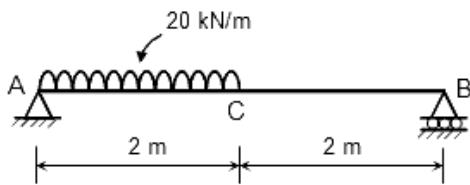

Figure.3
- b) A simply supported beam AB of span 4 m carries an uniformly distributed load as shown in fig. 3. Draw S.F. and B.M. diagrams for the beam. Find magnitude of maximum B.M.